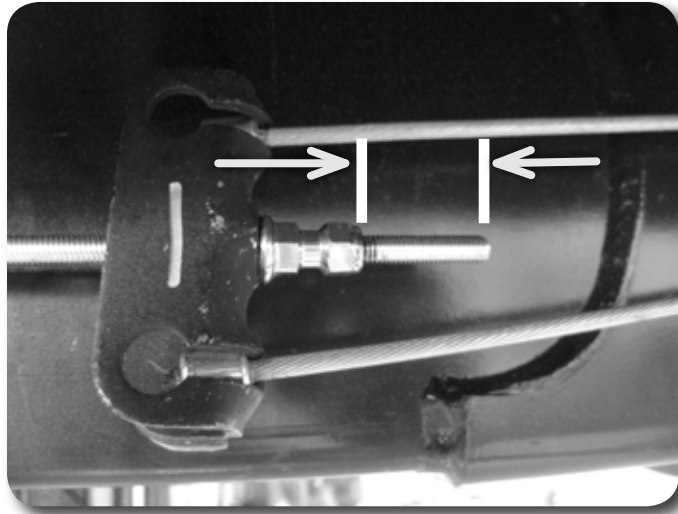

Figure 7A
15. Locate the parking brake running along the driver side frame rail. Take a measurement or mark on the cable, the current brake adjustment based on the amount of threads showing past the adjustment nut. See Figure 7A